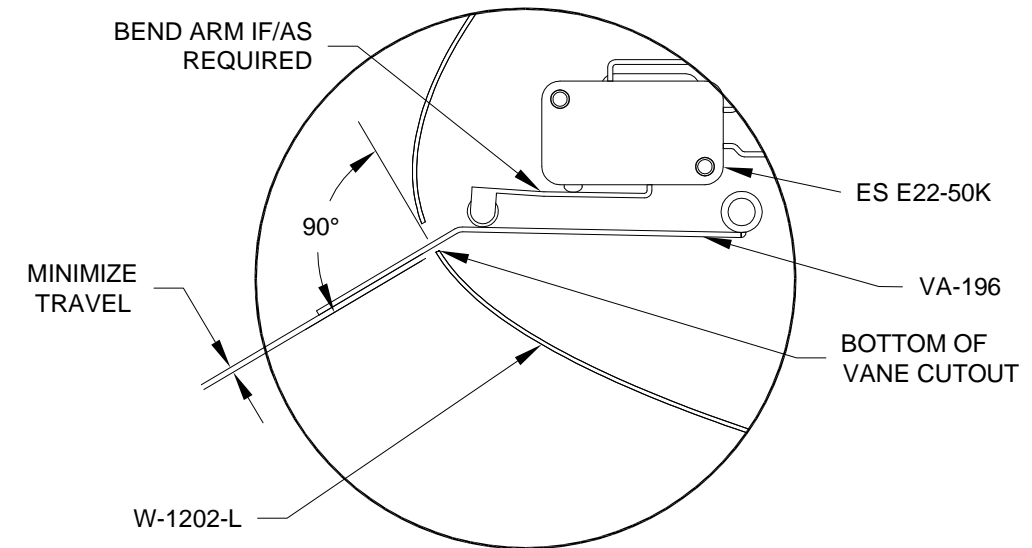

FIGURE 3: ACTIVATING THE MICRO SWITCH
Step 4: Double check that the VA-196 Stall Warning Vane in the at rest position is perpendicular to the surface of the wing skin. If the stall warning vane is not perpendicular, remove the Stall Warning Subassembly and bend the stall warning vane as required. See Figure 3. Adjust the subassembly until the VA-196 Stall Warning Vane activates and deactivates the ES E22-50K Micro Switch with the minimum travel possible (it is permissible to bend the arm on the micro switch if/as required).